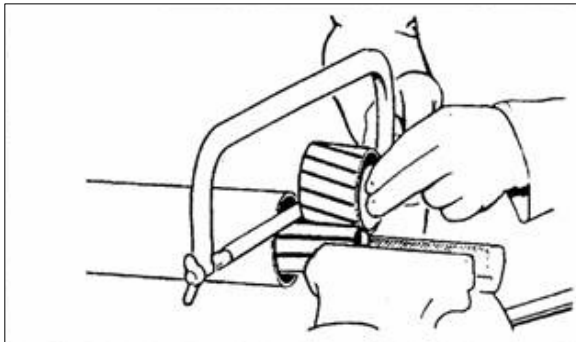

Figure 12: Cutting the shaft pipe
- Cut the shaft pipe by using metal saw (Figure 12).